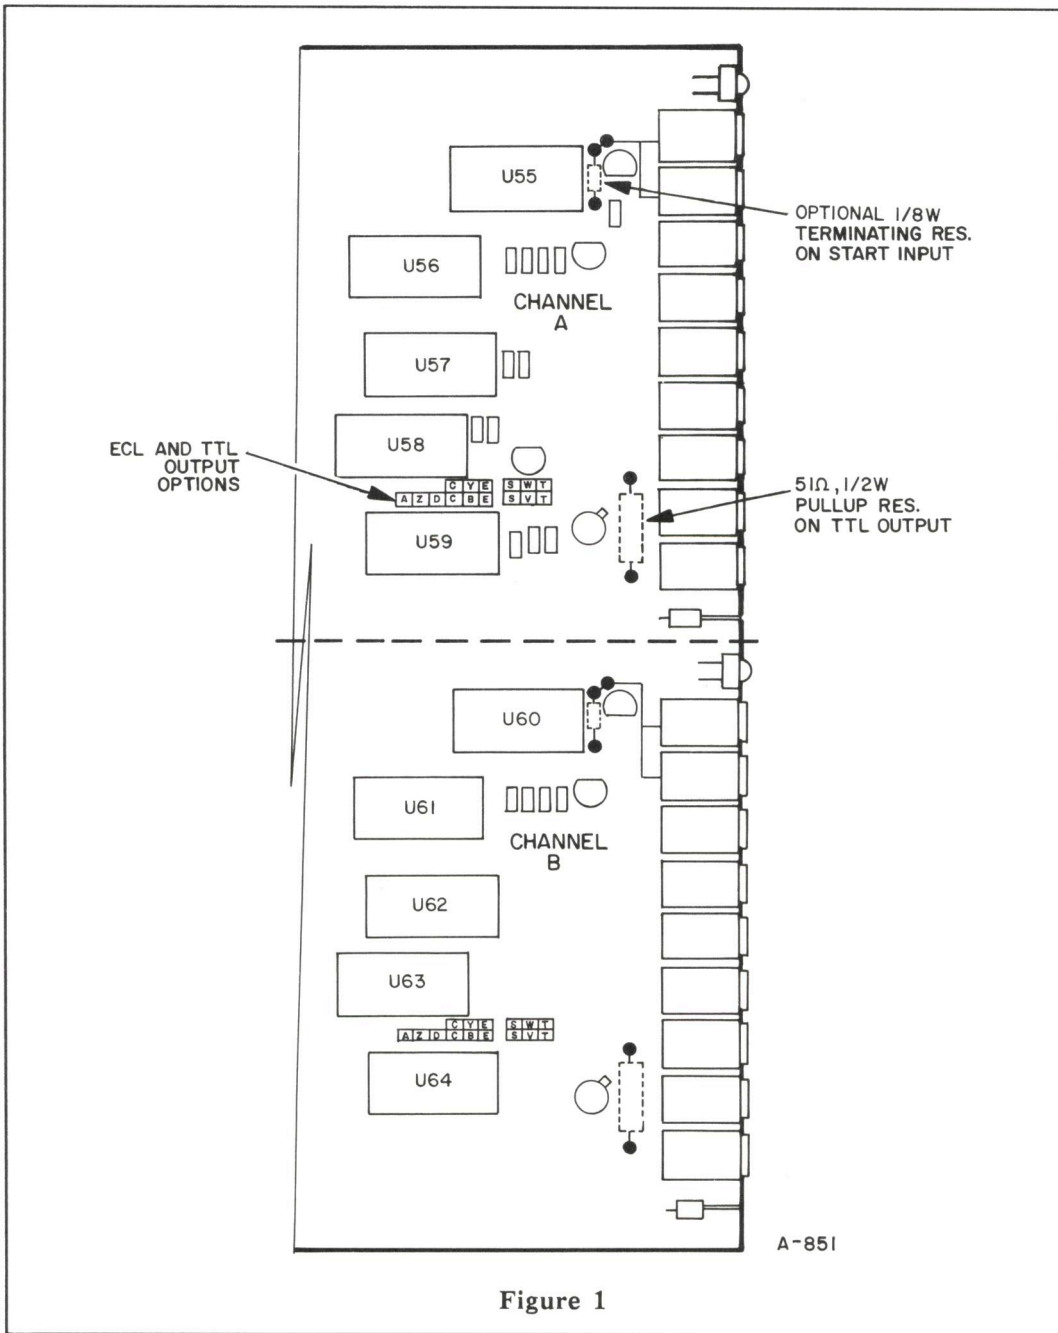

Figure 1
The following options are made available to the user (see Figure 1). They are located at the front-panel end of the main pc board. Note that there are two identical sections, each taking up half of the board space. Channel A(B) is located at the top (bottom).
\* Connections made at factory (see Figure 1).